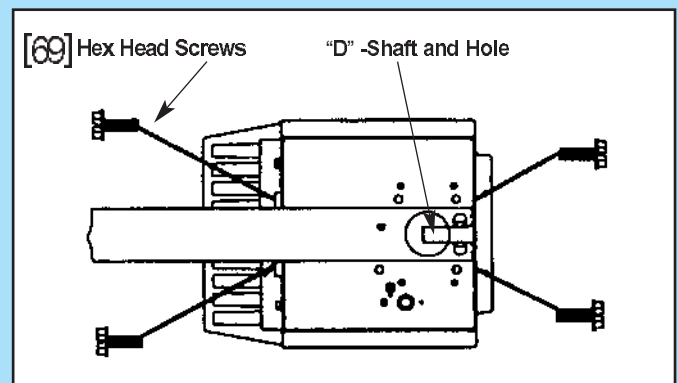

Fig. 1-2
4. **Slide drive end of channel down over "D"-shaft on top of power head (Fig. 1-2).**
- Insert and securely tighten the four (4) No. 10 x 1/2" hex head screws [69].